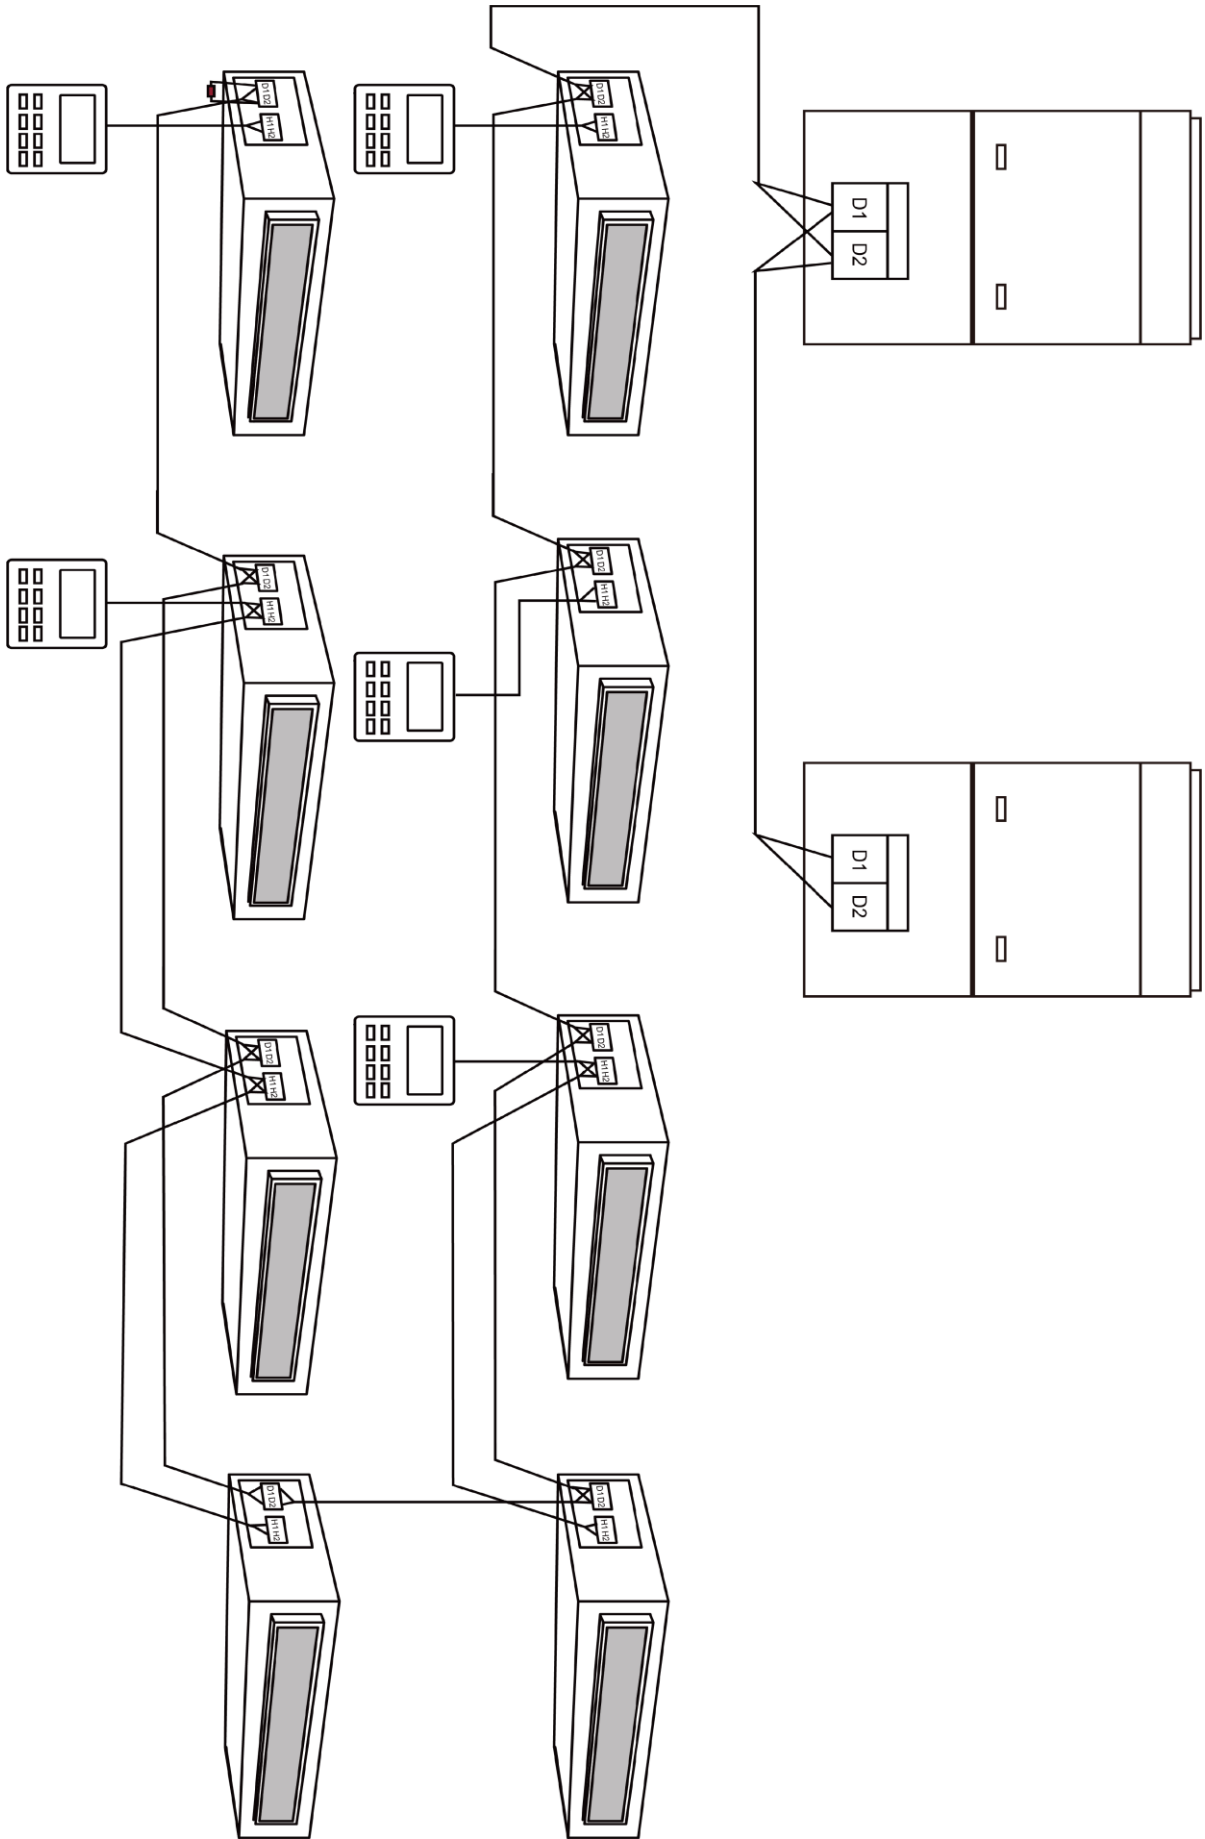

Fig 5.5
- (1) Communication wire of indoor unit to outdoor unit (or indoor unit) is connected to D1, D2.
- (2) Wired controller is connected to H1, H2.
- (3) One indoor unit can connect two wired controllers. One must be set as master and one as slave.
- (4) One wired controller can control 16 indoor unit in maximum at the same time (as shown in Fig. 5.5)